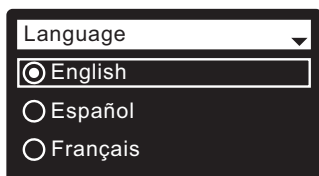

FIG. 15
- 1. LANGUAGE** If the desired language already has a dot next to it (See Figure 15), go to Step 2. Otherwise, press the filter’s DOWN (▼) or UP (▲) buttons to scroll to the desired language, then press the SELECT (○) button to choose it.